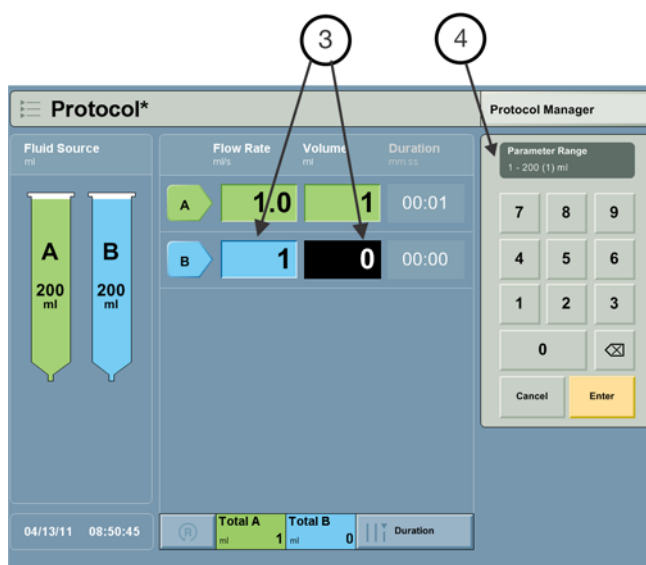

Figure 8 - 2: Enter Parameters
b. Select a parameter (3) and enter the values (4) (Figure 8 - 2: Enter Parameters).